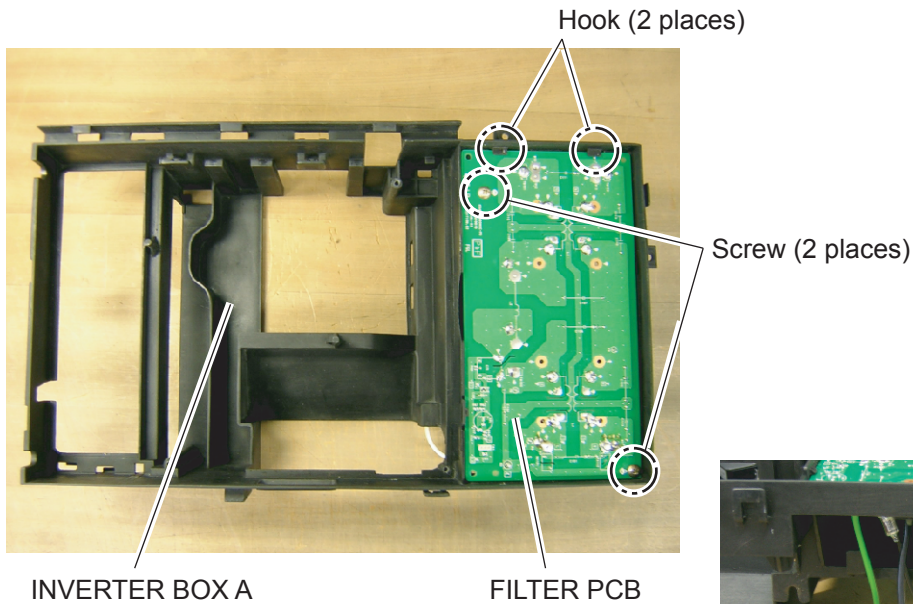

Fig.1
- As shown in Fig.1, assemble FILTER PCB to INVERTER BOX A.